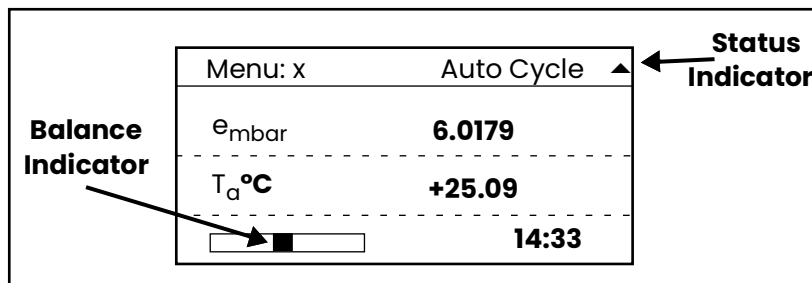

Figure 22: Balance and Status Indicator on OptiSonde Display
- The balance indicator (shown in *Figure 22* below) provides a graphic display of how much light is received by the mirror's photodetector. It is also an indicator of the dew layer thickness. This indicator increases and decreases in digital steps.